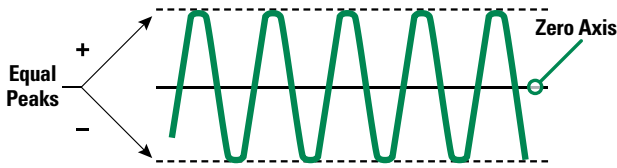
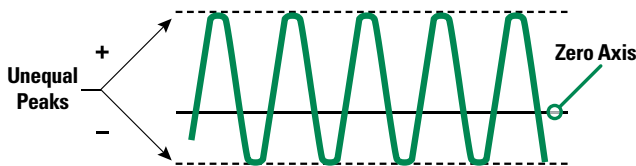

Figure 17 – Symmetrical Current
Figure 18 – Asymmetrical Current
**Symmetrical Current** – The terms “Symmetrical Current” and “Asymmetrical Current” describe an AC wave symmetry around the zero axis. The current is symmetrical when the peak currents above and below the zero axis are equal in value, as shown in *Figure 17* (next page). If the peak currents are not equal, as shown in *Figure 18*, the current is considered asymmetrical. The degree of asymmetry during a fault is determined by the change in power factor (X/R) and the point in the voltage wave when the fault occurs. See definition of Power Factor. In general, lower short-circuit power factors increase the degree of asymmetry.